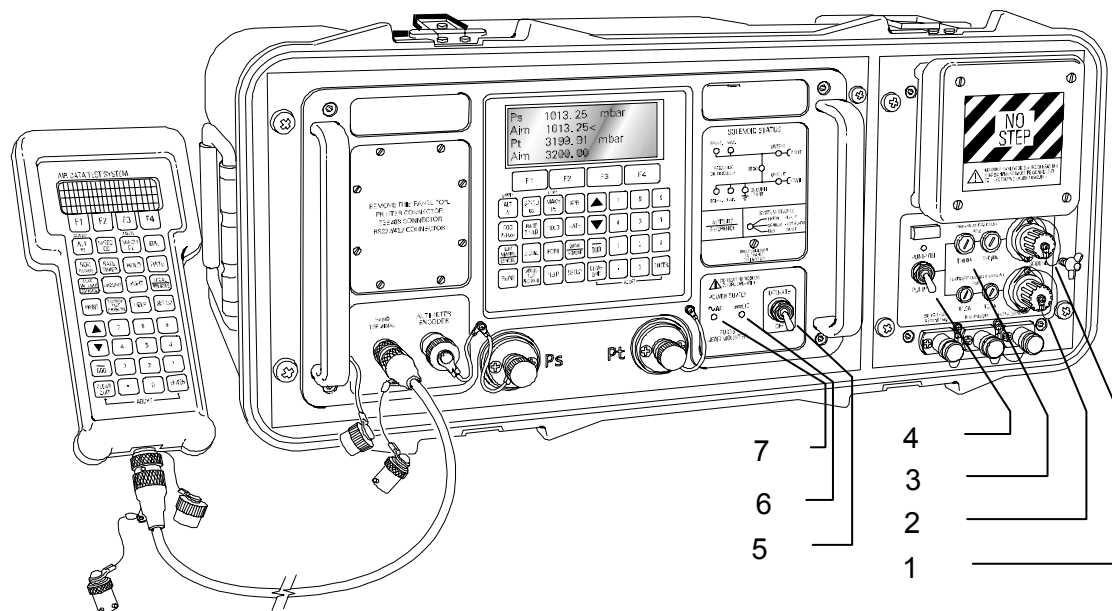

Figure 14 DPS500 Power Connection
1. Ensure that the DPS500 controller and pump power switches (Fig. 14, #5, #4) are in the OFF position prior to connecting the power cable.
3. Connect the power cord supplied with the DPS500 to the AC power connector on the Pump assembly (Fig. 14, #2) and to an AC power source (47-440 Hz / 88-260 VAC).
4. Verify that the AC Power indicator LED (Fig. 14, #7) is illuminated.
6. Turn the power switches for the DPS500 Controller (Fig. 14, #5) and the Pump Assembly (Fig. 14, #4) to the ON position. The Pump and Controller do not require to be switched ON in any specific order.
2. Ensure that the DPS500 controller and pump power switches (Fig. 14, #5, #4) are in the OFF position prior to connecting the power cable.
4. Connect the power cord supplied with the DPS500 to the DC power connector on the Pump assembly (Fig. 14, #1) and to a DC power source (24-30 VDC).
6. Verify that the DC Power Indicator LED (Fig. 14, #6) is illuminated.
7. Turn the power switches for the DPS500 Controller (Fig. 14, #5) and the Pump Assembly (Fig. 14, #4) to the ON position. The Pump and Controller do not require to be switched ON in any specific order.